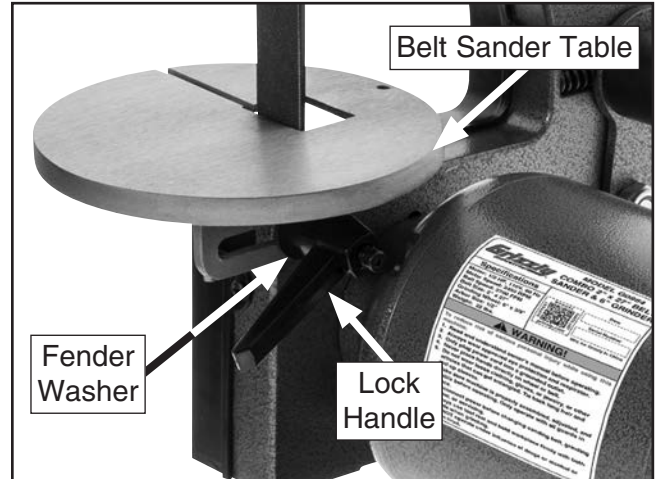

Figure 8. Belt sander table installed.
2. Install belt sander table with (1) lock handle and (1) 8mm fender washer, as shown in **Figure 8**.